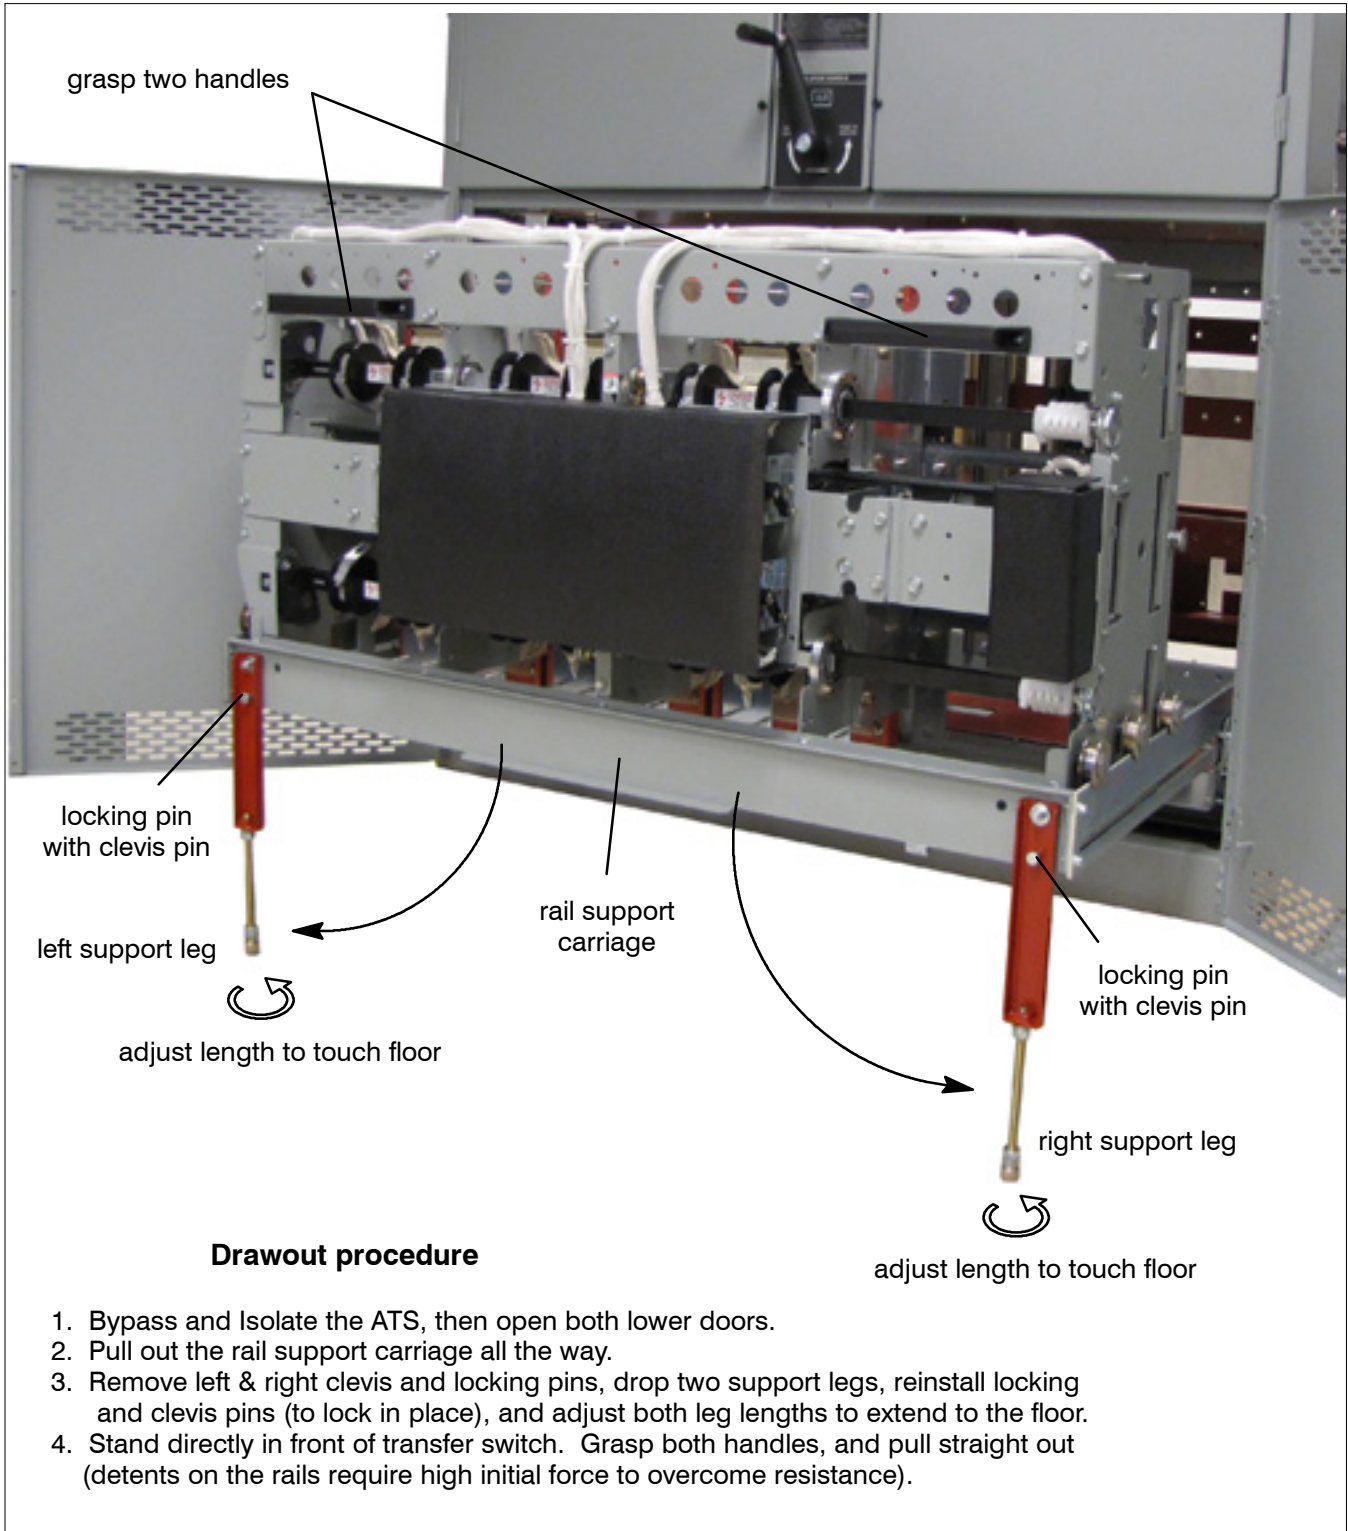

Figure 3-7b. 4000 amp transfer switch isolated and pulled out for inspection.
4. Open the lower enclosure door(s). Pull out the side rail carriage. On 4000 A extend two support legs; see Figure 3-7b. Then roll out the transfer switch. It can be safely inspected in this position. The transfer switch can also be removed for easier maintenance operations.
**To avoid personal injury and equipment damage on 4000 A switches, two support legs must be extended as shown in Figure 3-7b. Substantial initial force is required to pull out the transfer switch (there are detents on rails).**